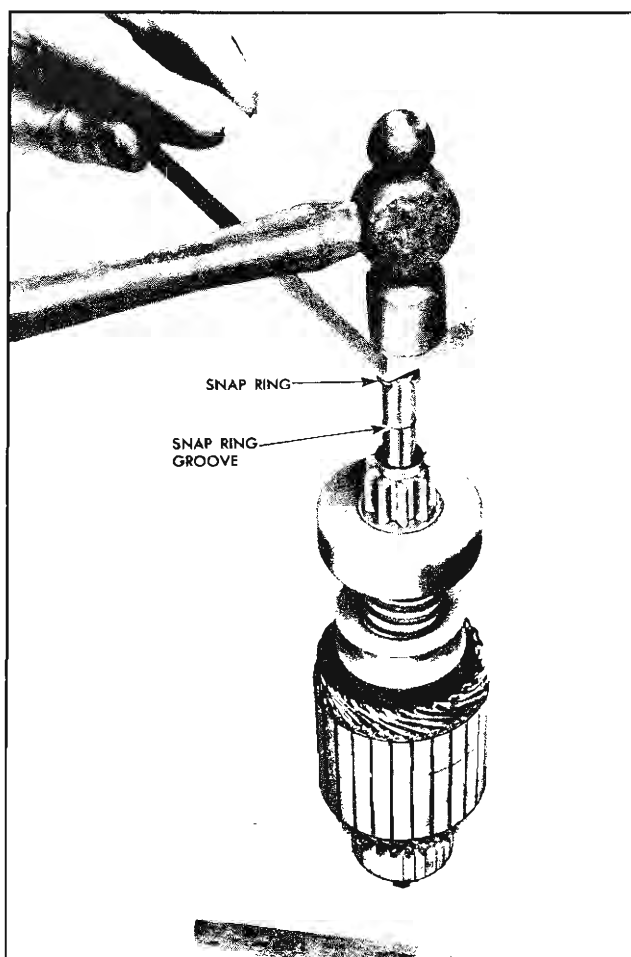

Fig. 11-10 Forcing Snap Ring onto Armature Shaft
d. Stand armature on end on wood surface with commutator down. Position snap ring on upper end of shaft and hold in place with a block of wood. Hit wood block a blow with hammer forcing snap ring over end of shaft. Slide snap ring down into groove (Fig. 11-10).